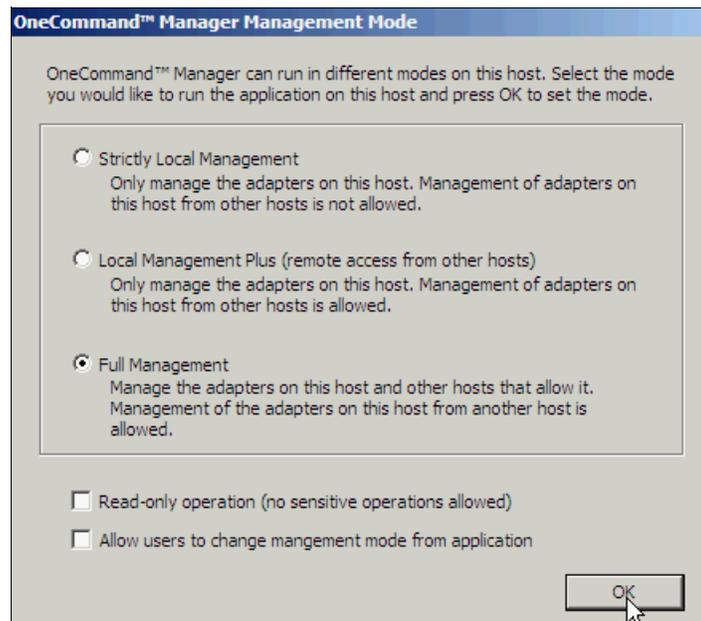

Figure 10-100 OneCommand Manager window
4. In the OneCommand Manager Management Mode window (Figure 10-100), select one of the following modes of operation: